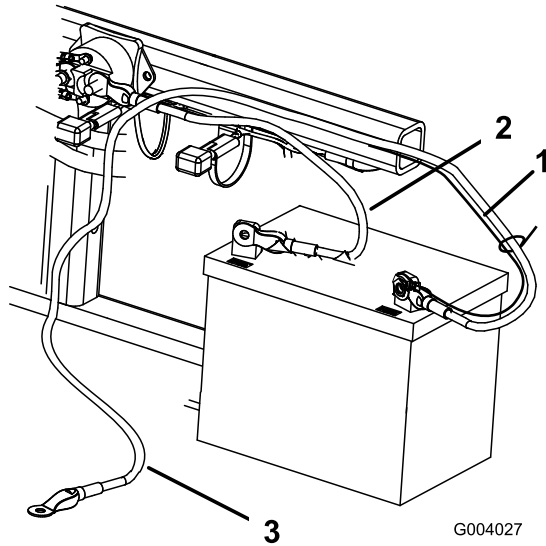

Figure 5
- Secure the positive cable (red) to the positive (+) terminal with a 1/4 x 5/8 inch bolt and locknut (Figure 5).
- Secure the small black wire and the negative cable (black) to the negative (-) terminal of the battery with a bolt (1/4 x 5/8 inch) and locknut (1/4 inch) (Figure 5).